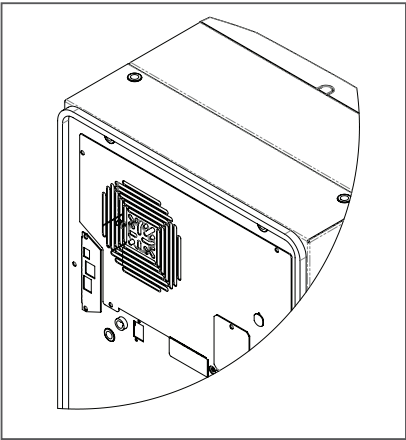

Figure 3
1. Using the mounting gasket kit provided with the unit, install gasket to the air conditioner, see Figure 3.